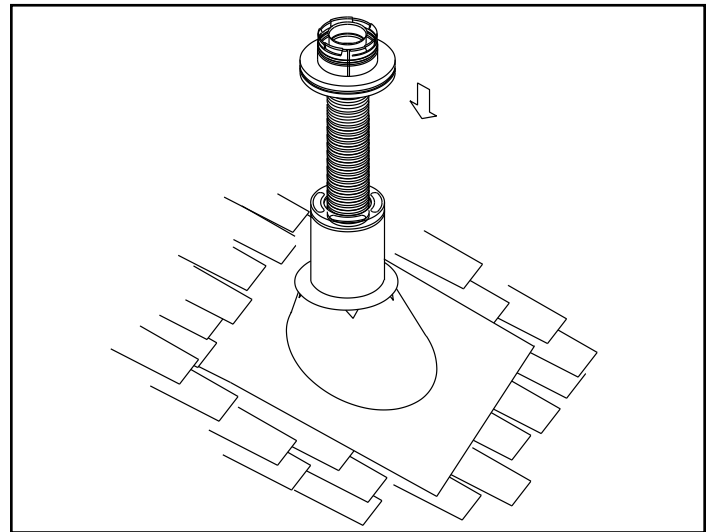

Figure 5.25
4. Pass the flex pipe down through the center of the chimney system, and center the top adapter on the top of the chimney pipe. Drill four 1/8 in. (3 mm) diameter holes through the top adapter, and into the chimney top. Ensure that you are drilling into the metal on the chimney. Twist lock the high wind termination cap onto the top adapter (Figures 5.25 and 5.26).